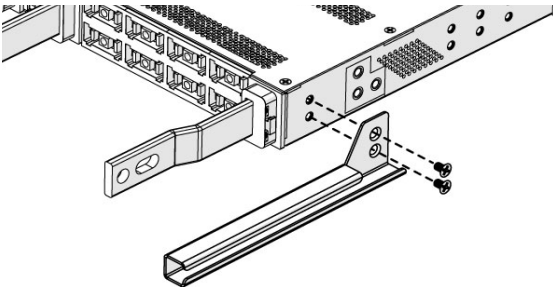
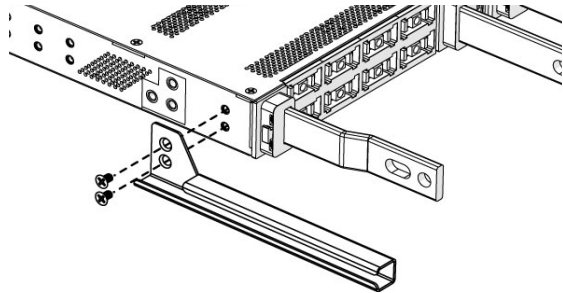

Figure 3. A-Side Rear Support Bracket
Figure 4. B-Side Rear Support Bracket
**Step 1.** Attach the rear rack support brackets to each side of the Matrix C16 using the included #10-32 hardware as shown in Figure 3 and Figure 4.